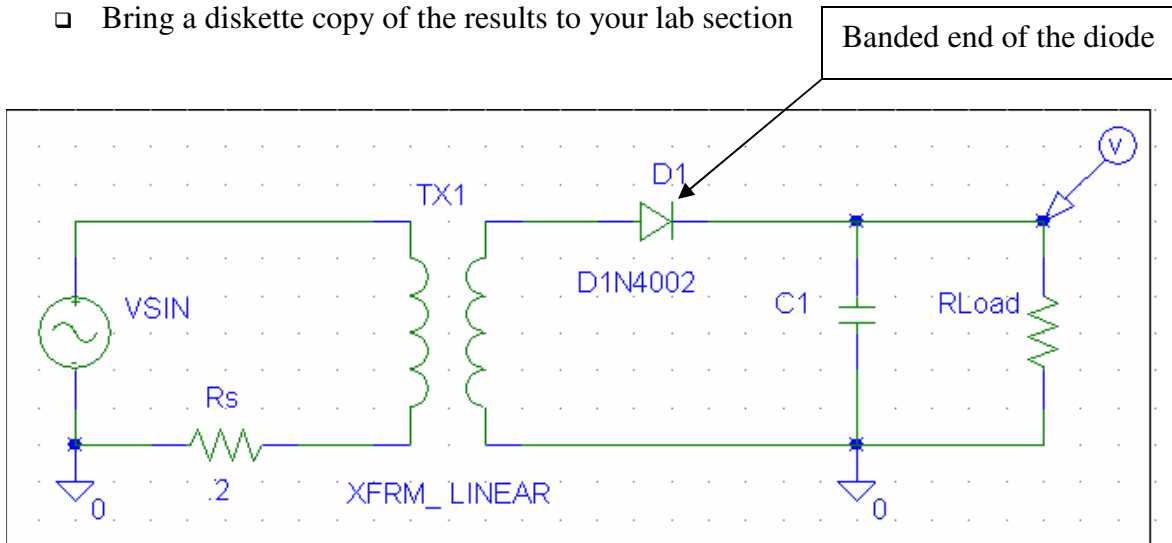

Figure 1 – PSPICE Schematic for the Half-Wave Power Supply
- ❑ Create the PSPICE circuit, shown in Figure 1 below. Include your calculated values for **C**, and the 1K Ω resistor **RLoad**
- ❑ Build the half-wave power supply circuit, shown in Figure 1 above, using your calculated value for **C1** (**Note: you do not include R_s in the actual circuit!**)
- ❑ **RECHECK THE DIODE AND CAPACITOR POLARITIES AGAIN! The Negative band of the electrolytic capacitor must go to circuit ground. The colored bands on the diodes must be connected as shown in Figure 1.**